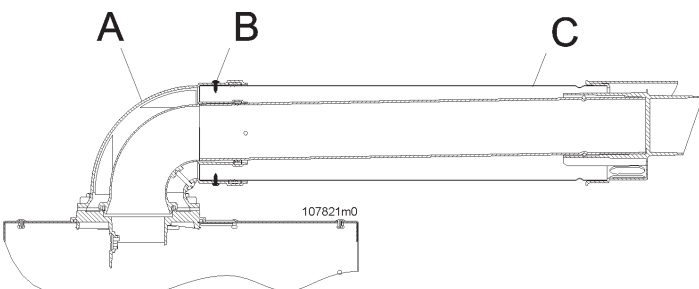

Figure 5-23 - Positioning the coaxial pipe
**WARNING!** Scrupulously follow the installation phases of the coaxial pipe as illustrated in figure 5-23. In particular: